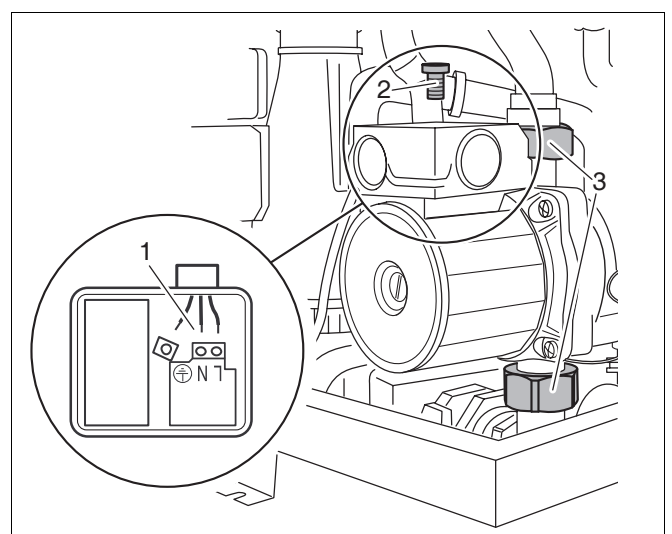

Fig. 66 600 - 11S / 19S / 24S / 24C: replacing the pump
- Loosen the screw on the terminal box (fig. 66, item 2) of the pump and open the terminal box. Note the wiring layout, and loosen the cables (fig. 66, item 1).
- Loosen the screw-in connections on the pump (fig. 66, item 3) and remove the pump.